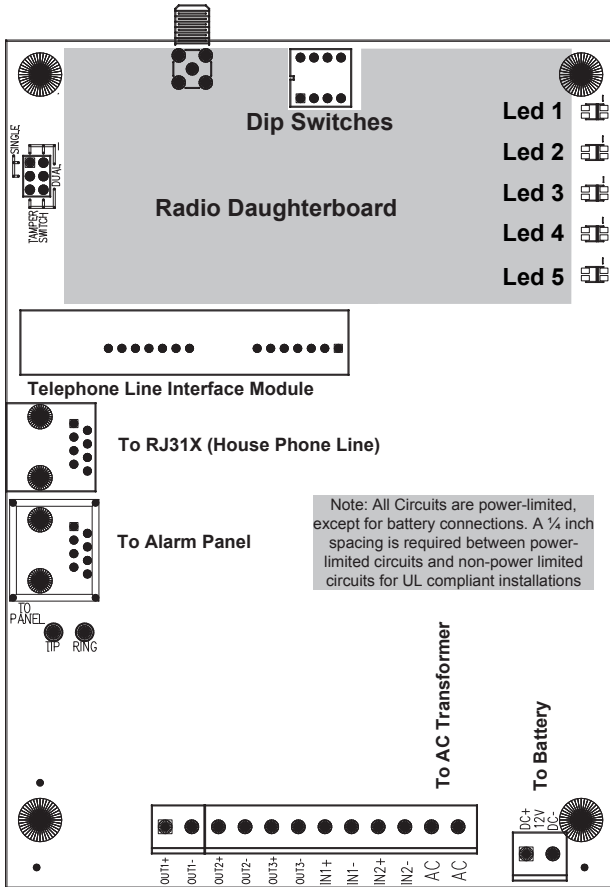

FIGURE 1: 4550-CB PC BOARD DETAILS
1. Open the enclosure's door. Locate the four (4) mounting holes. Use the enclosure as a template to mark where to drill holes for the screws and anchors that will hold the enclosure in place on the wall.
3. Go to the red, 4-position Dipswitch as shown in Figure 1 and set the dipswitch as appropriate for this installation (table on page 15).